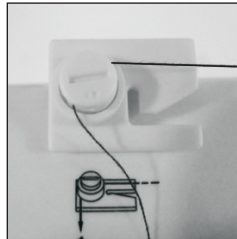

Fig.12
2. Guide the thread through the bobbin winder tension disk on the upper side of the machine. (Fig. 12)